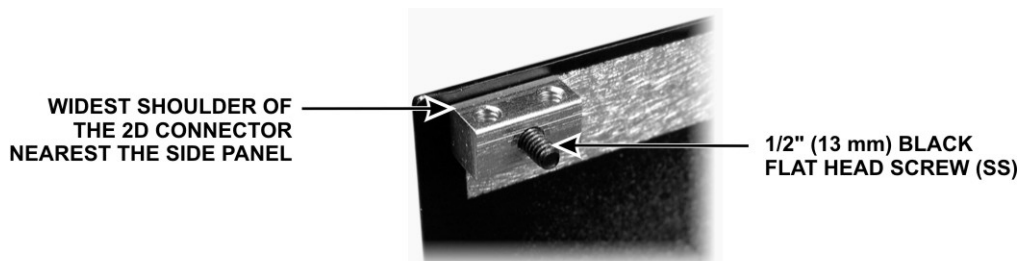

Figure 72. Mounting 2D fastener for KANT3 or KAT3A Standoff.
At the upper rear corner of the side panel you just identified in the previous step, mount a 2D fastener as shown in Figure 72, using a black 4-40 1/2" (13 mm) flat head screw (SS). Remember that flat head screws are measured from the flat top to the end of the threads. Note that the screw extends some distance through the 2D fastener.